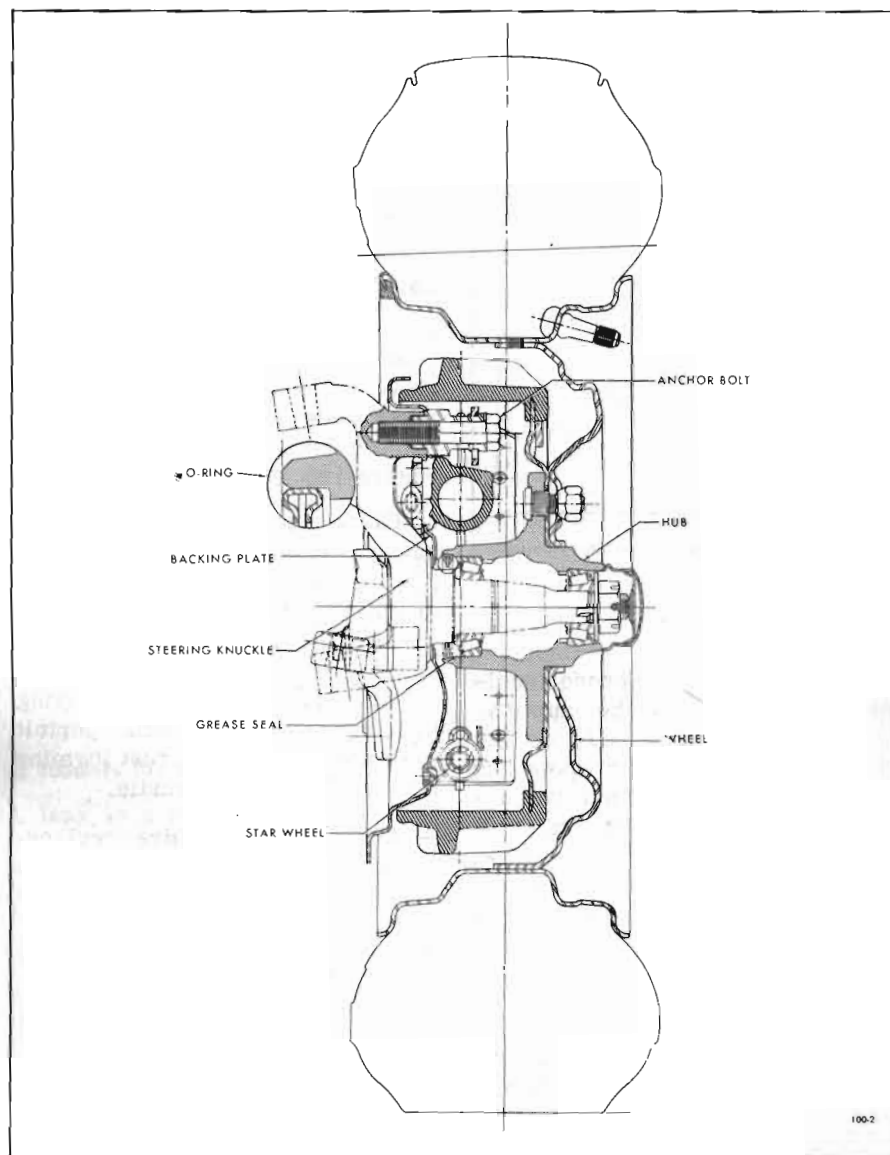

Figure 100-2—Front Wheel Hub Bearings
2. Remove outer race and outer bearing assembly from hub. Remove oil seal from hub so that inner race and bearing assembly can be removed from hub. See Figure 100-2.